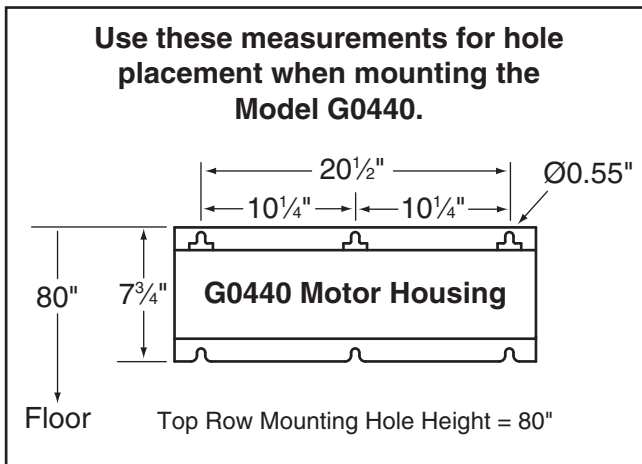

Figure 8. G0440 wall mounting layout.
- Copy the mounting hole layout pattern from the motor housing (see **Figures 8–9**) to your wall mounting board, making sure the **Top Row Mounting Hole Height** is correct for your dust collector.
- Copy the mounting hole layout pattern from the motor housing to your wall, making sure the **Top Row Mounting Hole Height** (see **Figures 8–9**) is correct for your dust collector.